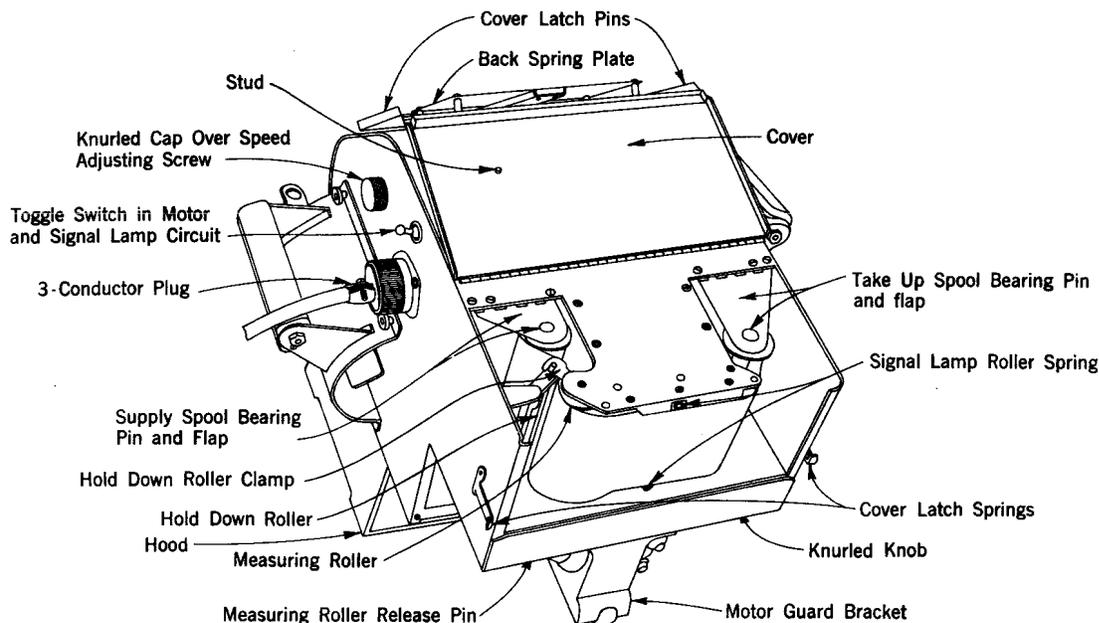

Fig. 1 - Rear View of Message Register Camera With Cover Open Loading the Camera With Film
3.08 Release the latches at the bottom of the camera and fold the back cover all the way up until it rests on top of the camera. Move the hold down roller clamp to the right and swing the hold down roller fully to the left. (See Fig. 1.) Lift the spool bearing flap to an upright position and remove the empty spool, if present, from the film chamber on the supply side, i.e., on the left.